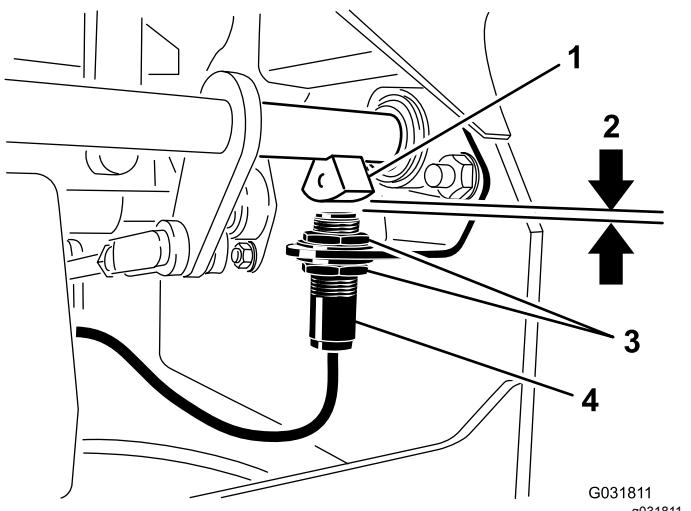

Figure 45
4. Move the switch up or down on the bracket until the distance between the brake-shaft sensor and the switch plunger is 4 mm (5/32 inch) as shown in **Figure 45**.